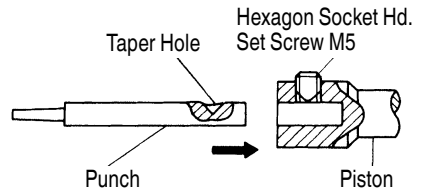

Fig. 12
- Insert the new punch while aligning the taper hole of the punch and the direction of the M5 hexagon socket set screw, then securely tighten the hexagon socket set screw (see Fig. 12).